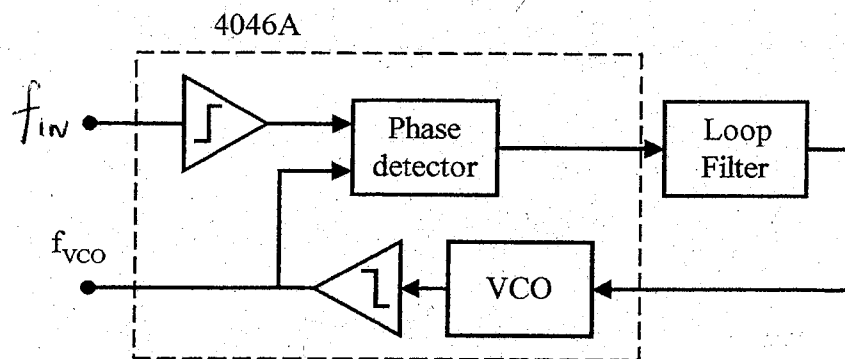

Figure 6a
6. (a) *Figure 6a* shows the block diagram of a phase-locked loop (PLL), which is implemented using a commercial IC (the 4046A PLL plus VCO) with an external loop filter. Derive an expression for the (small-signal) closed loop transfer function of this PLL, given that a simple first order lowpass filter is used. Given that the type 1 phase detector is to be used, and with reference to the 4046A data sheet extracts (*Figures 6b, 6c*), calculate appropriate values for the following components (you may assume $V_{CC}=5\text{ V}$, VCO gain $K_V = \frac{4\pi f_L}{V_{CC}} \text{ rad s}^{-1} \text{ V}^{-1}$,